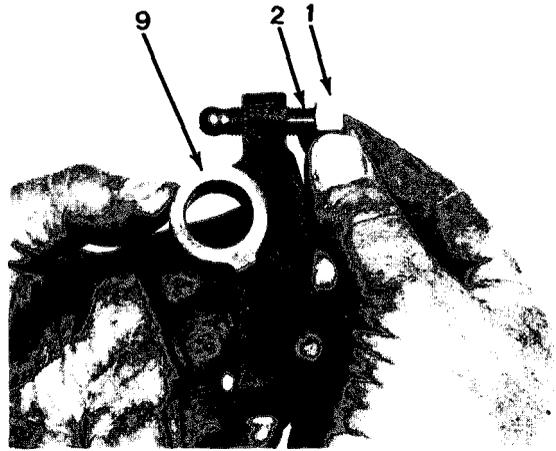

Figure 6-4
1. If removed, install four rocker adjustment screws (2) and adjusting nuts (1) to rocker intake and exhaust recker levers (9, Figure 6-4).